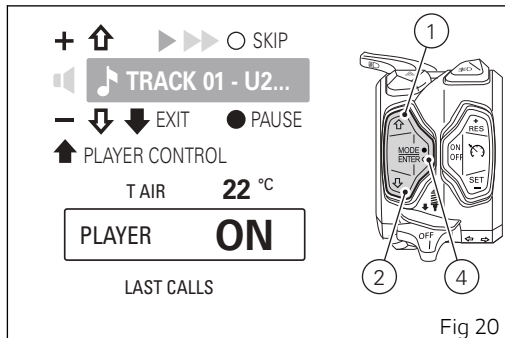

Fig 20
Press button (4) to switch it on. The instrument panel shows "PLAYER ON" and displays the Player menu above the Menu (Fig 20).